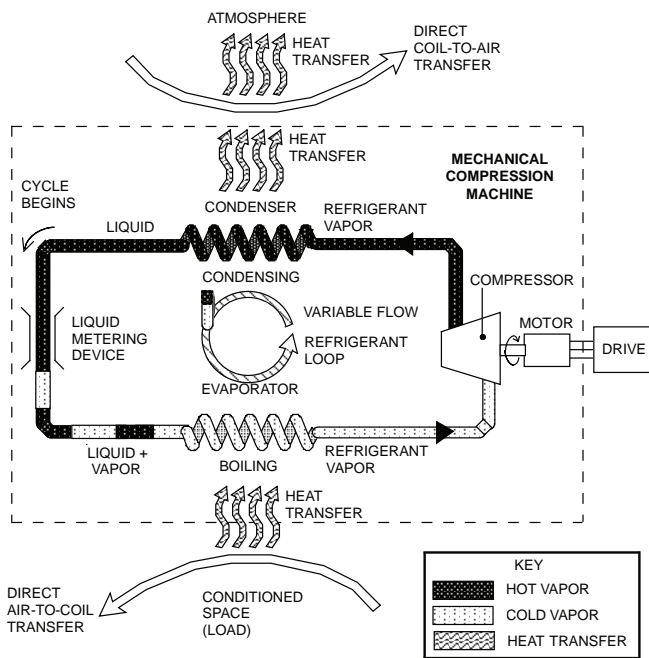

Figure 1. Direct Expansion Configuration
The cycle begins with the refrigerant in a liquid state at high pressure (see Figure 1). The liquid metering device acts as a valve controlling the amount of refrigerant entering the evaporator, which is at a lower pressure. In the evaporator at lower pressure, the refrigerant changes state (into a gas) by absorbing heat from the area where it is unwanted (load). The refrigerant gas then goes through the compressor, raising its pressure. Next, the high pressure gas discharges the unwanted heat to the unobjectionable place (the atmosphere) by changing states back to a liquid in the condenser. The cycle then begins again.
There are also two basic configurations in which the refrigerant cycle is applied. They have to do with how the “cooling effect” is supplied to the desired location. Direct expansion (DX) is the first configuration, which involves placing the evaporator directly in the space requiring cooling. Thus, the refrigerant is directly expanded into the space needing conditioning via the metering device and the evaporator coil. The heat flow path is from the space to the refrigerant to the atmosphere (see Figure 1).